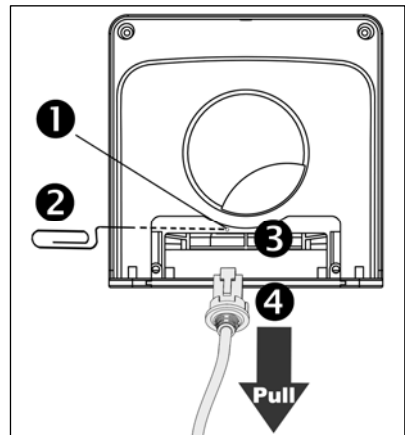

Figure 42. Host Cable Removal
2. Bend a paperclip into the shape shown in *Figure 42*.